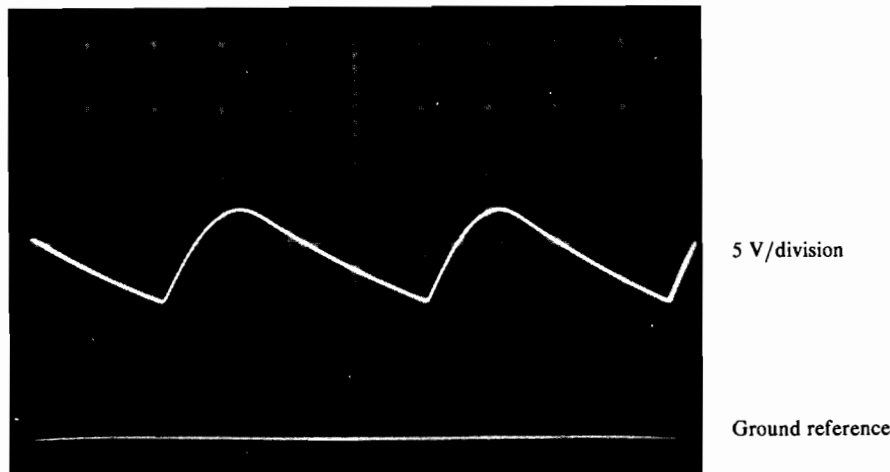

FIGURE 3-2 Time base: 2 ms/division.
2. Apply 117 VAC (rms) to the transformer's primary leads. With one oscilloscope channel set to dc coupling, connect the probe to the ungrounded junction of the 1-k Ω resistor and the 100- μ F capacitor. If everything is working properly, you should obtain the waveform shown in Figure 3-2.